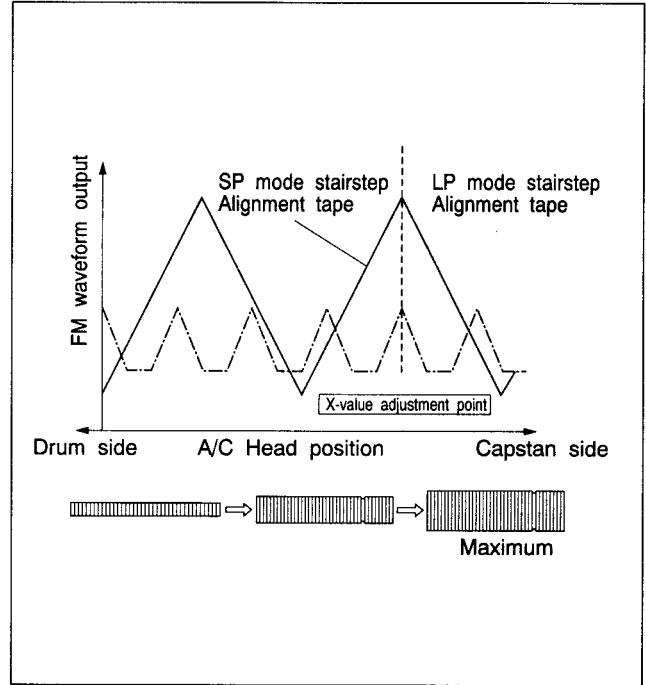

Fig. 2-7-7
- (5) Turn the tool first to position the A/C head fully toward the drum and stop at the position of maximum FM waveform output level as shown in Fig.2-7-7.
- (6) Tighten screw (5). Remove the tool and tighten screw (4).
- (7) Eject the SP alignment tape [MHPE] and then re-insert the LP alignment tape [MHPE-L].
- (8) Playback the LP stairstep portion of the alignment tape [MHPE-L].
- (9) Set the neutral manual tracking position by pressing the **///** button on the remote controller or TV PROG "-" and "+" buttons simultaneously.
- (10) Confirm maximum playback FM waveform output level as shown in Fig.2-7-7.
- (11) If not maximum, slightly loosen the screws (4) and (5). Use the tool and adjust the head position for the nearest maximum point. Then tighten screws (4) and (5).